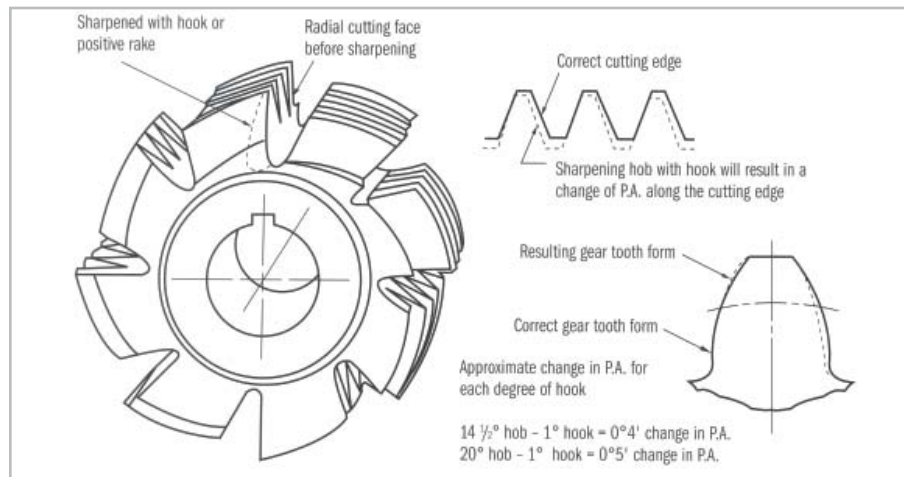

Figure 7. Effect on profile of a hob resharpened with positive rake when the cutting face should be sharpened radial.
- 2) Hob cutting faces are sharpened with positive rake (Figure 7)